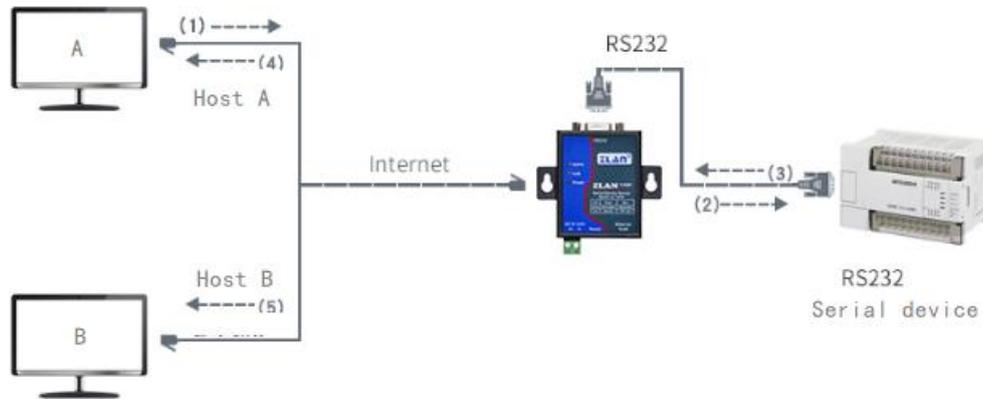

Figure 36 Multi-host function demonstration
As shown in Figure 36, in ordinary mode, when two hosts, host A and host B, are connected to the serial port server at the same time, host A sends (1) instruction, RS232 device receives (2) instruction, RS232 device returns (3) instruction, but the serial port server sends (4) to host A and (5) to host B at the same time. Because host B did not send the query, but it also received the reply instruction (5), host B may generate a communication exception error. In multi-host mode, there will be only instructions (4) and no instructions (5), because the serial server will automatically remember the host that needs to be returned, and only the command will be returned to the most recent communication host, host A queries will only reply to A, host B queries will reply to host B.
As shown in Figure 36, if the serial port device (RTU device) acts as the primary station and the network port device (Modbus TCP device) acts as the secondary station, there are multiple network port secondary devices at the same time. In this case, you can use the serial port server as a client to connect to multiple network ports. For details, see 5.2.2 Connecting a Client to Multiple Servers.